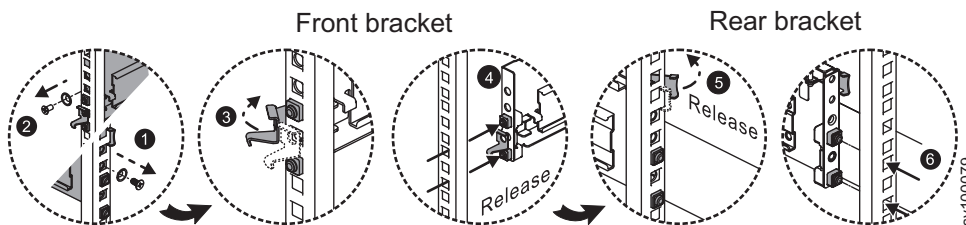

Figure 37. Removing the slide rails
2. Remove the slide rails, as shown in Figure 37.